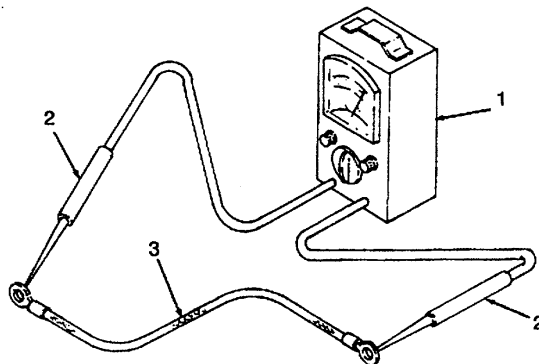

Figure 4-14. Internal Cable Assembly.
- (1) Preset multimeter (1, Figure 4-14) to perform continuity testing.
- (2) Touch probes (2) of multimeter to each end of cable (3), refer to power distribution panel wiring diagram (FO-1) and Table 4-4. Multimeter should indicate continuity.